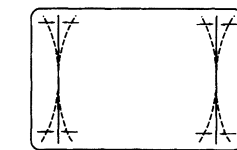

fig. 2.4B
- Adjust the straightness of both vertical lines (figure 2.4B) using buttons “4” or “6” on the remote control.